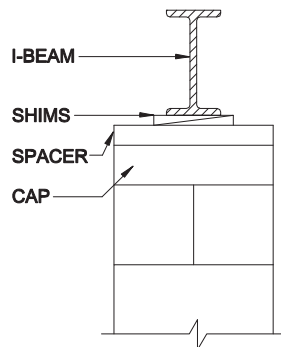

Figure 17. Correct shim placement
4. **Install shims.** Use shims to level the home and fill any gaps between the base of the I-beam and the top of the pier cap. When required, always use shims in pairs (**Figure 17**). Drive them in tightly so they do not occupy more than one inch of vertical space. When the space to be shimmed is greater than one inch and less than the minimum thickness of available caps or concrete blocks, use hardwood dimensional lumber (two inches maximum thickness) or 4" thick concrete block. For split caps, install shims and dimensional lumber/blocks over each individual cap. Two cap blocks may be used as the cap on double block piers provided the joint between the cap blocks is perpendicular to the joint between the open cell concrete blocks and is also perpendicular to the I-beam supported by the pier.